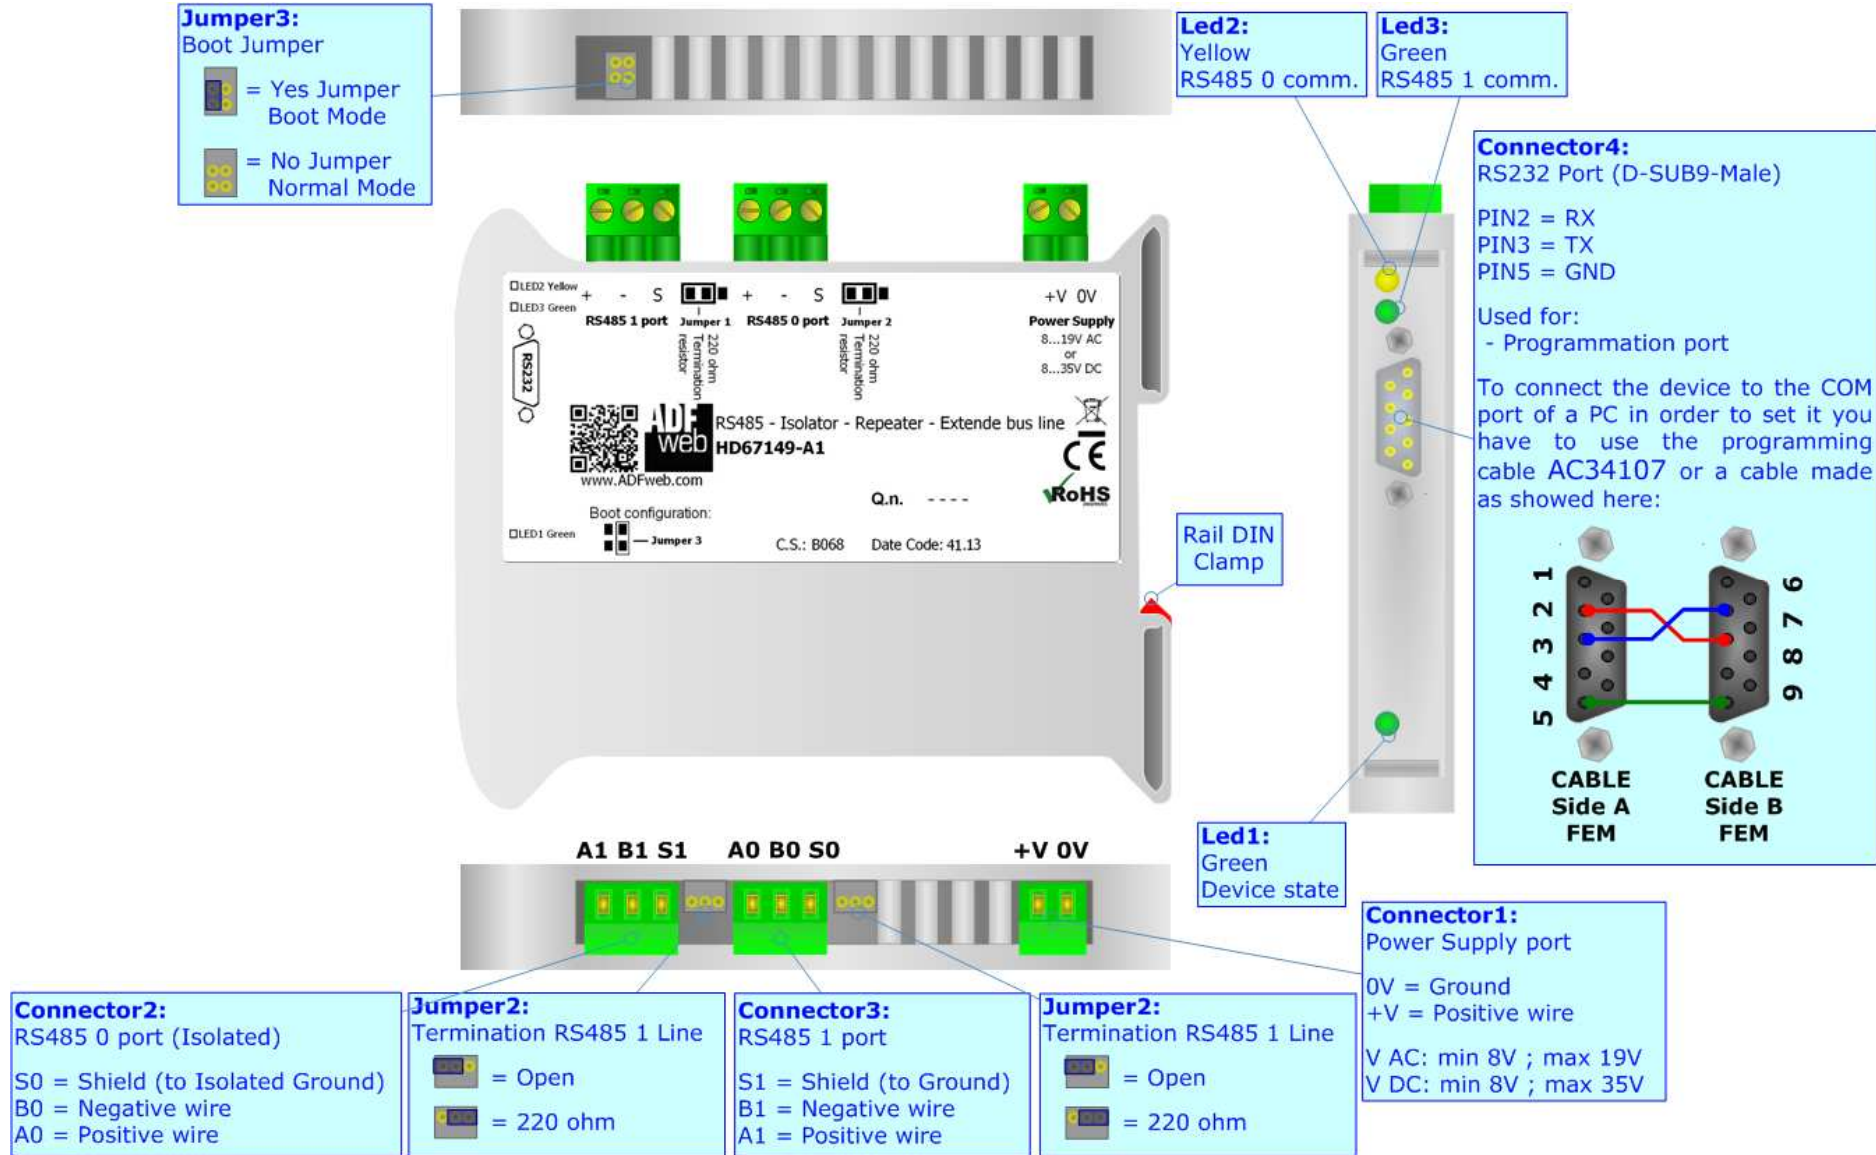

Figure 1: Connection scheme for HD67149-A1
The functions described above shall be made when the device is in Boot. For more details about Boot see "Connection Scheme" (Fig. 1).
- Insert the Boot Jumper (see Fig. 1 for more info);